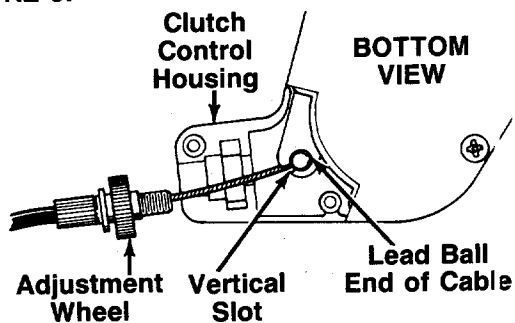

FIGURE 6.
- Place the lead ball end of the cable into the fitting provided in the end of the clutch control lever. Slip the braided wire into the vertical slot as shown in figure 6.
- Make certain the adjustment wheel is threaded onto the cable as far as possible as shown in figure 6. Place the adjustment wheel into the clutch control housing.